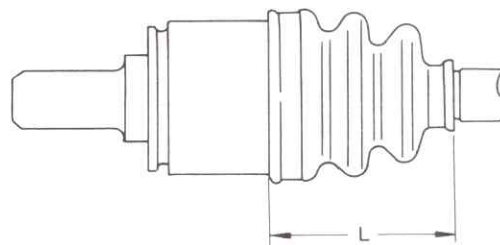

Fig. 8.6 Setting bellows length, inboard joint
- 9 Set the bellows length (Fig. 8.6) then fit the large securing band. Tighten both bands using pliers and a screwdriver, bend over the tabs, then bend back the remaining end and cut off the excess.